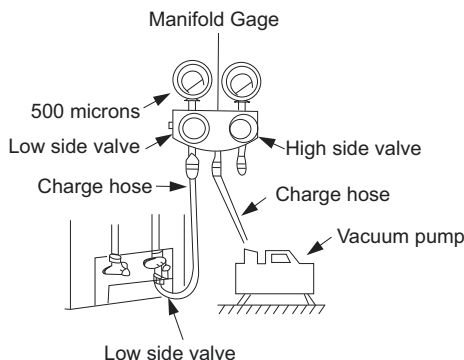

Fig. 26 —Manifold
3. Fully open the low side of the manifold gage (see Fig. 26).